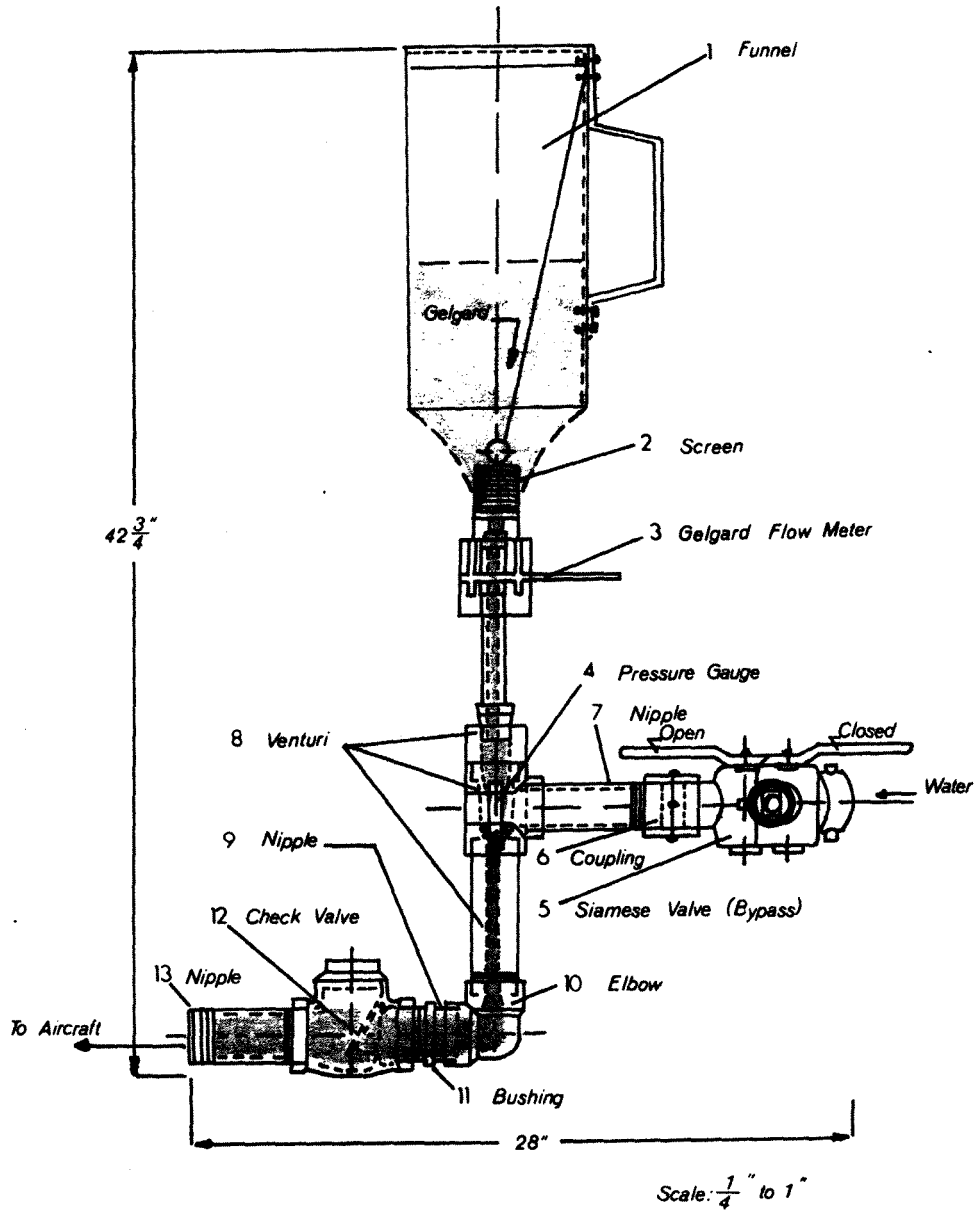

Figure 2. Side view of GELGARD F injector mixing system.
A side view of the GELGARD F mixing system is shown in Figure 2. The feed-in apparatus includes a clear plastic funnel with an 18-pound capacity (1), a screen (2), and a GELGARD F flow meter (3). The removable screen prevents impurities, e.g., grass and balls or flakes of dye, from restricting or stopping flow of GELGARD F into the injector. The flow meter, which consists of one of two movable brass discs (each containing four holes), regulates the amount of GELGARD F powder being entrained. Disc "A" has holes of drill size Nos 37, 36, 34, and 33; disc "B" has drill size Nos 32, 31, 30, and 29. These eight holes cover the range of GELGARD F application rates. For example, with Disc "A" set on the No 3 opening, or No 34 drill size, about 15 pounds of GELGARD F powder is entrained in the $4\frac{1}{2}$ minutes required to fill the 250-gallon tank with a Wajax pump. The check valve (12) prevents mixed material from being forced back into the injector should excessive back-pressure develop in the loading hose.